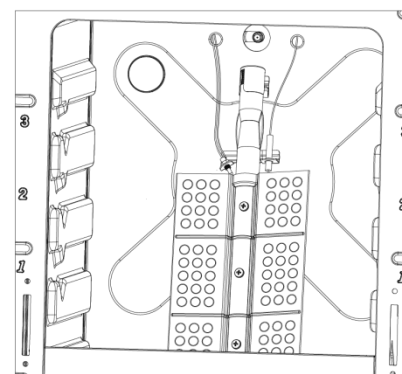

fig. 24
- Gently suspend the burner as shown in figure 24.
- Using a 7 mm box spanner, unscrew the injector (indicated in figure 24) and replace it using the new LPG injector.